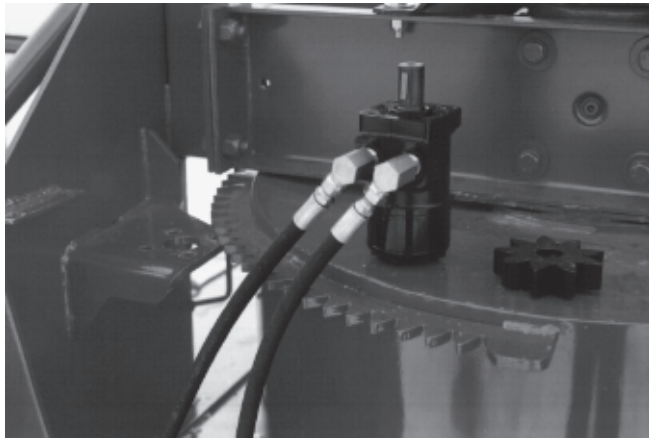

Figure 19
- 2) Install elbows on the hydraulic motor using teflon tape for a leak proof connection. Orient the elbows as shown (Fig. 19).